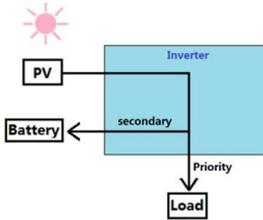

Figure 1-9
2. If the PV is sufficient, the PV will give priority to supplying power to the load, and the excess energy will charge the battery (Figure 1-9).